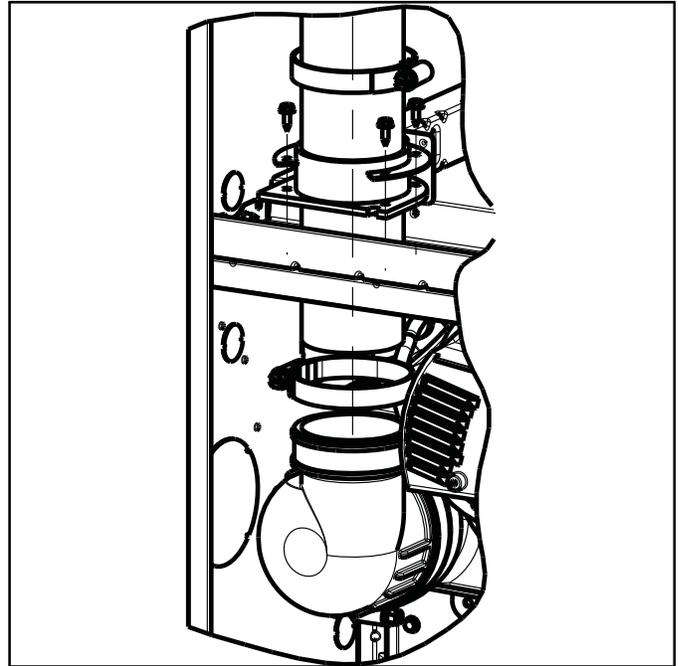

Figure 8 – Inducer Elbow and Left Blower Shelf Seal
- Tighten the clamp around the outlet of the vent elbow and the clamp on the blower shelf seal assembly. Torque the clamps to 15 lb-in (1.7Nm). See Figure 8.